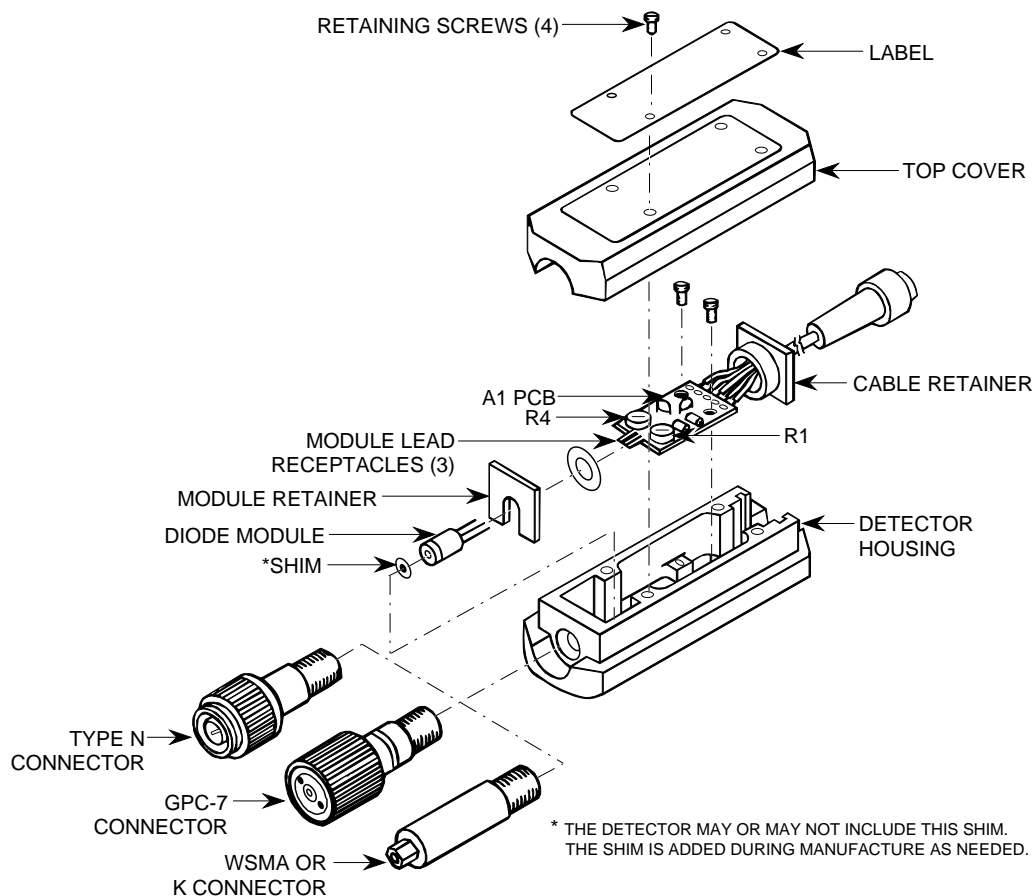

Figure A-4. Series 560-7XXX RF Detectors, Exploded View
- Step 2** Unfasten the two retaining screws that hold down the RF detector PCB subassembly (Figure A-4).
- Step 12** Orient detector housing normally (Figure A-4). Insert replacement diode module into rear of connector body so that center lead is on top.
- Step 15** Orient PCB subassembly normally as shown in Figure A-4 and insert into detector housing so that leads from replacement diode module mate with connectors on PCB subassembly.